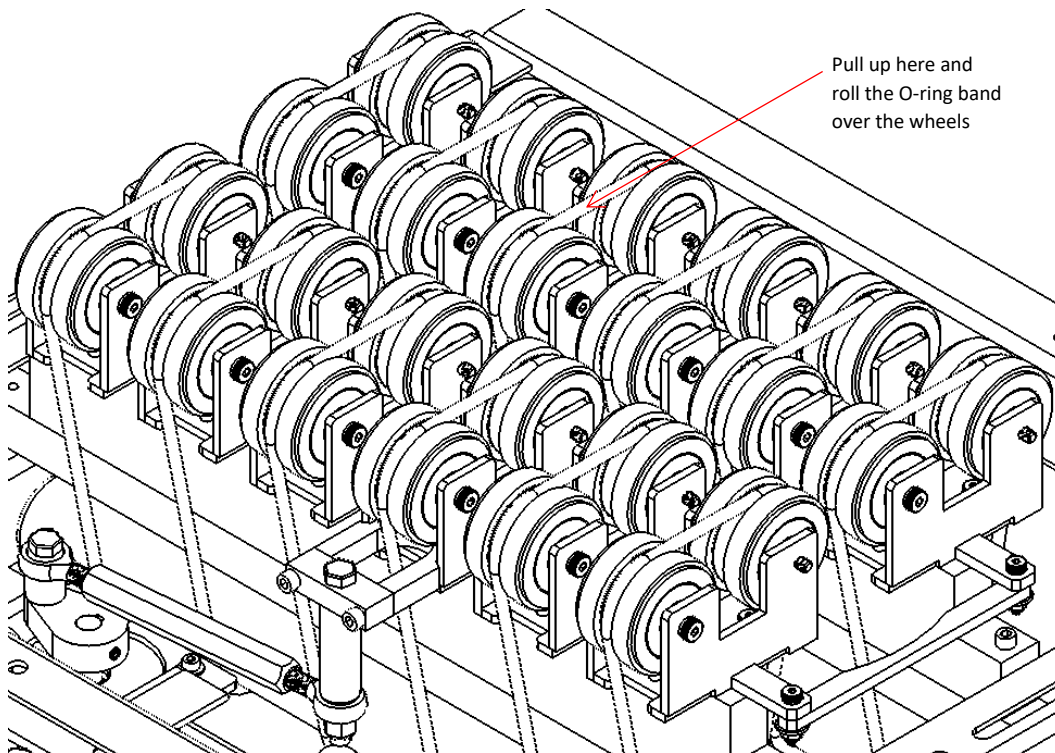

Figure 17: PWD O-ring band
2. Remove the O-ring bands from the PWD wheels. The O-ring bands can be removed by pulling up from between the PWD wheels and rolling the band off the side of the wheels (Figure 17). **Please be careful in doing this step as the band tension is fairly high and is characterized as a pinch point.**